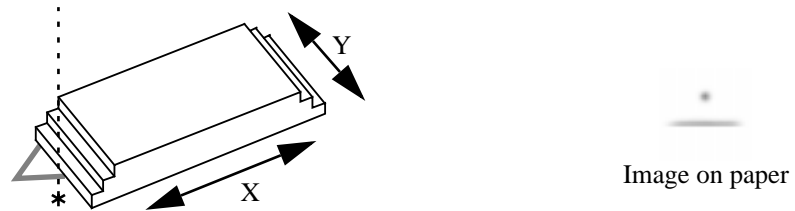

Figure 5.12. Laser spot off probe and resultant reflection pattern.
1. Position the laser beam off the cantilever substrate (figure 5.12).